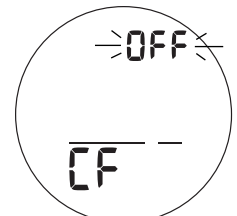

Fig. 51 - SET CONSERVATIVE FACTOR
SET CONSERVATIVE FACTOR (CF), information includes (Fig. 51):